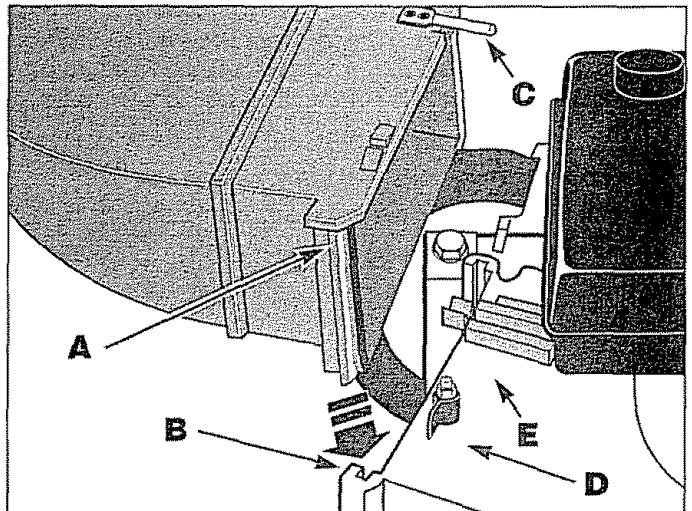

Figure 9: Install blower deflector.
Position the tabs on the sides of the blower deflector (A in Figure 9) into the slots in the discharge opening (B) and slide the blower deflector down all the way into the slots. Turn retaining knob (D) until the tab on the knob drops into the slot on the blower deflector. (Reverse this procedure when removing the blower deflector.)